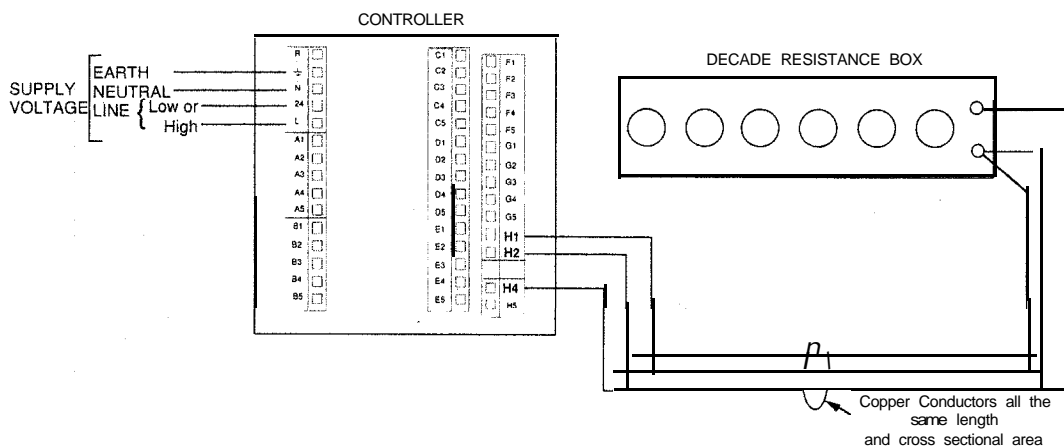

Figure 3 Instrument connections for rL and rth calibration procedure.
- 1) Connect the input of the instrument to a decade resistance box as shown in Figure 3.